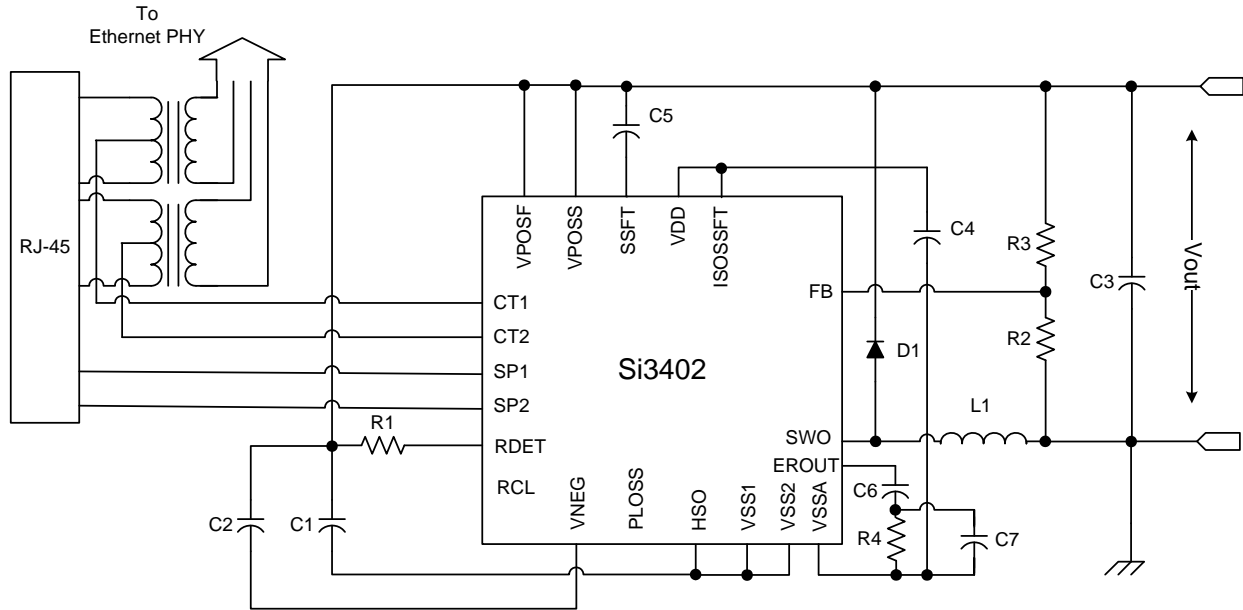
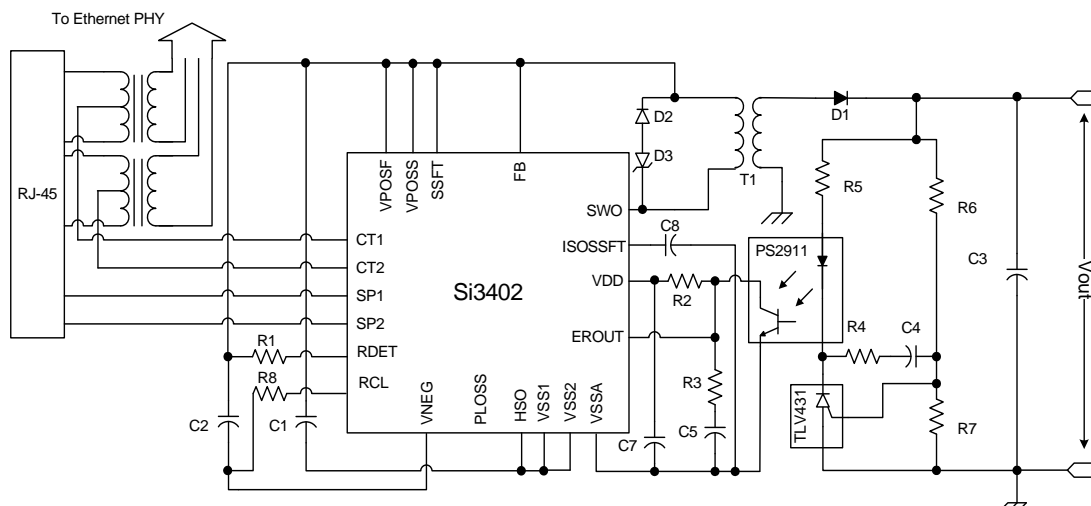

Figure 1. Schematic—Class 0 with Non-Isolated 5 V Output*
Figure 2. Schematic—Class 1 with Isolated 5.0 V Output*
6. Applies to non-isolated applications only (VOUT on schematic in Figure 1).
<ol style="list-style-type: none"> 1. Transient surge defined in IEC60060 as a 1000 V impulse of either polarity applied to CT1–CT2 or SP1–SP2. The shape of the impulse shall have a 300 ns full rise time and a 50 μs half fall time with 201 Ω source impedance. 2. The classification currents are guaranteed only when recommended RCLASS resistors are used, as specified in Table 10. 3. IPORT includes full operating current of switching regulator controller. 4. The PD interface includes dual-level input current limit. At turn-on, before the HSO load capacitor is charged, the current limit is set at the inrush level. After the capacitor has been charged within ~1.25 V of VNEG, the operating current limit is engaged. This higher current limit remains active until the UVLO lower limit has been tripped or until the hotswap switch is sufficiently current-limited to cause a foldback of the HSO voltage. 5. See “AN296: Using the Si3400/1/2 PoE PD Controller in Isolated and Non-Isolated Designs” for more information. 6. Applies to non-isolated applications only (VOUT on schematic in Figure 1).
The application determines the converter topology. An isolated application will require a flyback transformer-based switching topology while a non-isolated application can use an inductor-based buck converter topology. In the isolated case, dc isolation is achieved through a transformer in the forward path and a voltage reference plus opto-isolator in the feedback path. The application circuit shown in Figure 2 is an example of such a topology. The non-isolated application in Figure 1 makes use of a single inductor as the energy conversion element, and the feedback signal is directly supplied into the internal error amplifier. As can be seen from the application circuits, the isolated topology has an increased number of components, thus increasing the bill of materials (BOM) and system footprint.